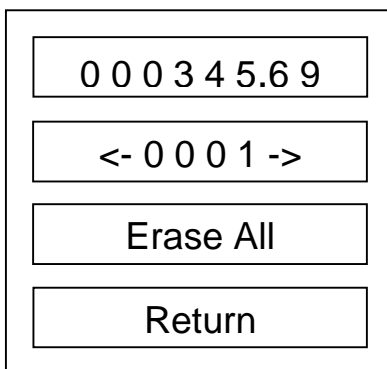

Fig. 7 “**Data**” screen
- a. Touch “**Data**” tab on the “**Main Menu**” screen will let you select the assay/channel in which you want to inspect the data. After selection the “**Data**” screen now shows similar to Fig. 7. The first row shows the saved data, and the second row shows the data sequential number. You can touch the left and right arrow key to change the data number to inspect other saved data.